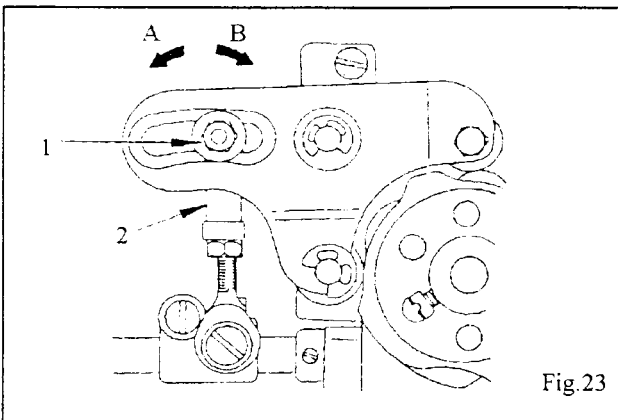

Fig. 23
To regulate the stitch length, tip machine back on its hinges, loosen lock nut (1) and turn rod (2), as required. (Fig. 23)